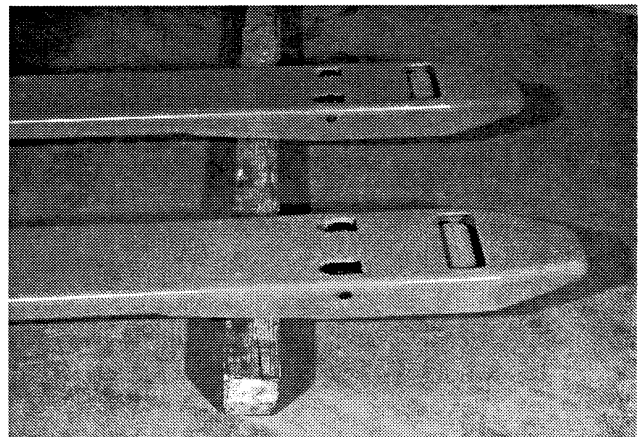

Figure 2-1: Blocking the Fork Section
2. Block the fork section as shown in Figure 2-1. The tractor section will remain on the floor.